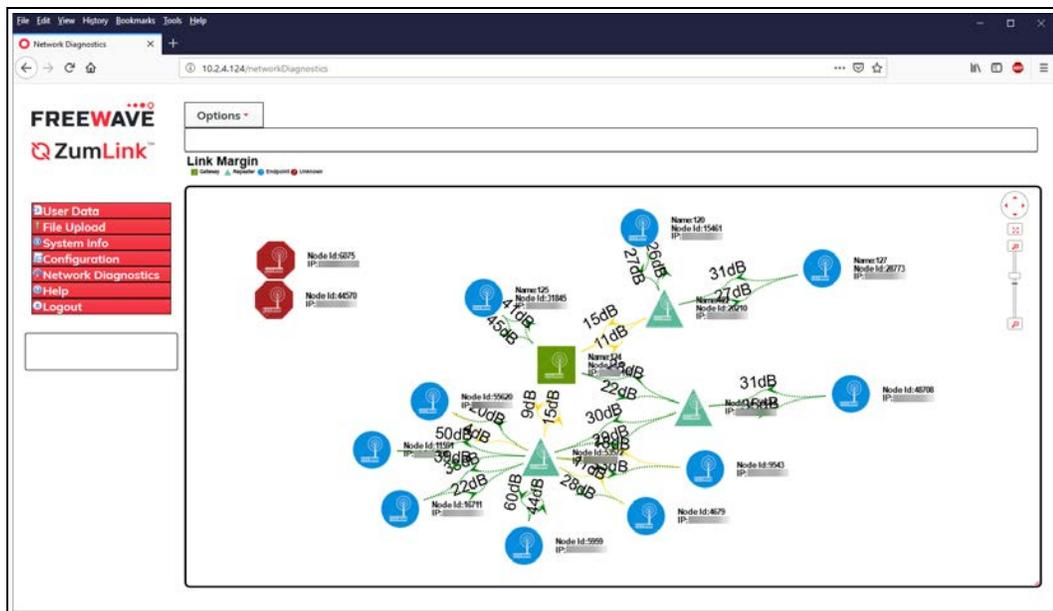

Figure 194: Network Diagnostics window - Cose-bilkent
- Click the **Options** list box arrow and select the **Cose-bilkent** option to show the **Cose-bilkent** connections in the **Network Diagram**. Figure 194